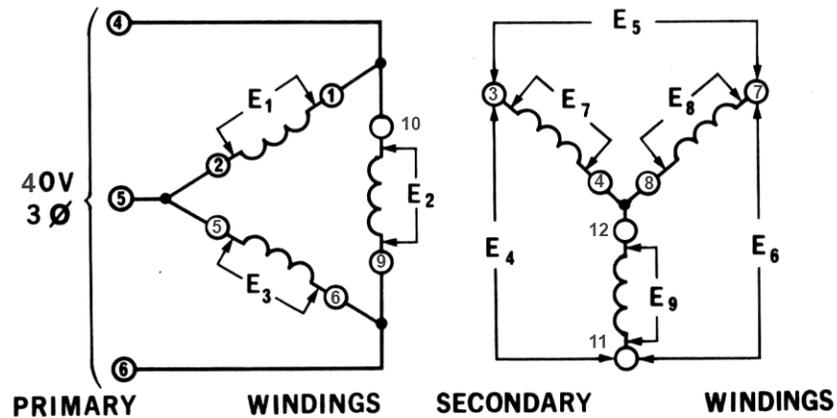

Figure 05-8.
- 6) Construct the 3-phase transformer shown in Figure 05-8.